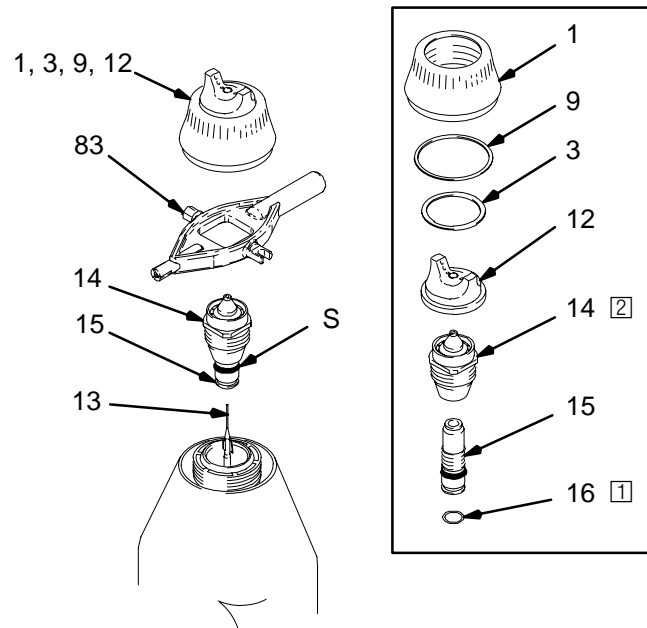

Fig. 26
2. Point the front end of the gun up while removing the air cap assembly (1, 3, 9, 12). See Fig. 26.
The resistor stud contact ring (S) is a conductive contact ring, **not** a sealing o-ring. See Fig. 26. To reduce the risk of sparking, which could cause a sparking or electric shock, **do not** remove the resistor stud contact ring (S) or operate the gun without the contact ring in place. Do not replace the resistor stud (15) with anything but a genuine Graco part.
- 1 Apply a very light coat of lubricant to the o-ring (16).
- 2 Tighten the nozzle (14) hand-tight, then 1/8 to 1/4 turn more.
1. Lightly lubricate the o-ring (16) with petroleum jelly and install it on the resistor stud (15). See Fig. 26.
4. Install the fluid nozzle (14) and resistor stud (15) assembly with the multi-tool (83). Tighten it until the fluid nozzle seats in the gun barrel (1/8 to 1/4 turn past hand-tight). See Fig. 26.
5. Carefully install the air cap (12) and gasket (3). Do not bend the electrode wire (13), and be sure to insert the electrode wire through the *center* air cap hole. Rotate the air cap horns to the desired position.
6. Make sure the o-ring (9) is in place on the air cap retaining nut (1). Tighten the retaining nut (1) until the air cap is held firmly in place; you should not be able to rotate the air cap horns by hand.